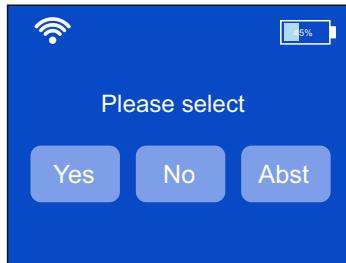

Figure 4.54
- The microphone units will display a prompt with three options "Yes", "No" and "Abst". (See Figure 4.54)